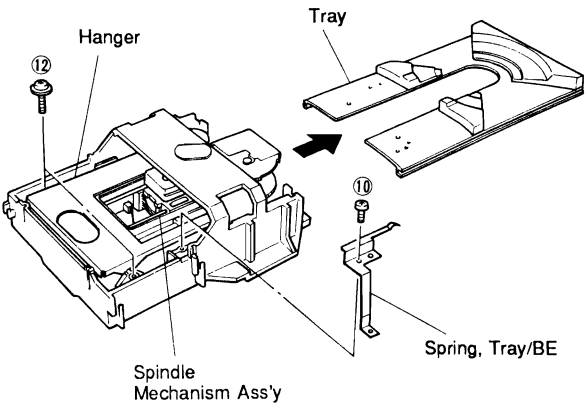

Fig. 3
- b. Remove a screw (⑩) and then remove the spring tray/BE in Fig. 3.
- e. Remove 2 screws (⑫) and then remove the spindle mechanism assembly (with a hanger) in Fig. 3.